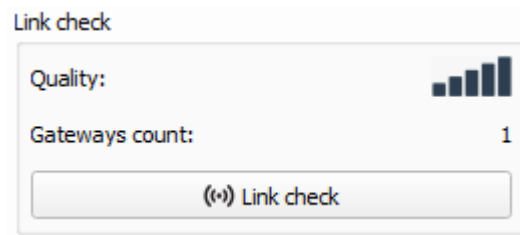

Figure 13 — “Link check” field
3.4.2.8 «Link check» button (not displayed in the "Simple" mode) – when pressed, the device sends a special signal to the LoRaWAN network, in response to which the network informs it about the number of gateways that received this signal and the signal quality (fig. 13). This button only works while the device is connecting to the network.